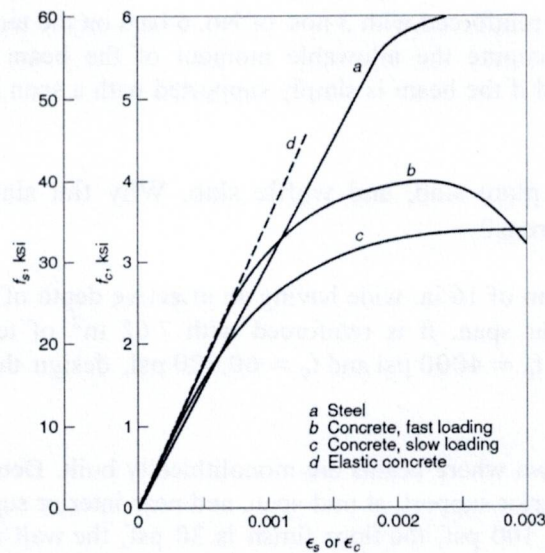

Figure 01: Concrete and steel stress-strain curves
- 1.b) A 15×18 in. column is made of concrete and reinforced with six No. 8 bars. The stress-strain diagrams of reinforcing steel and concrete are shown in Figure 01. Determine (i) the axial load that will stress the concrete to 1200 psi; (ii) the load at which the steel starts yielding; (iii) the share of the total load carried by the reinforcement at these two stages of loading. Use curves a and c. 05